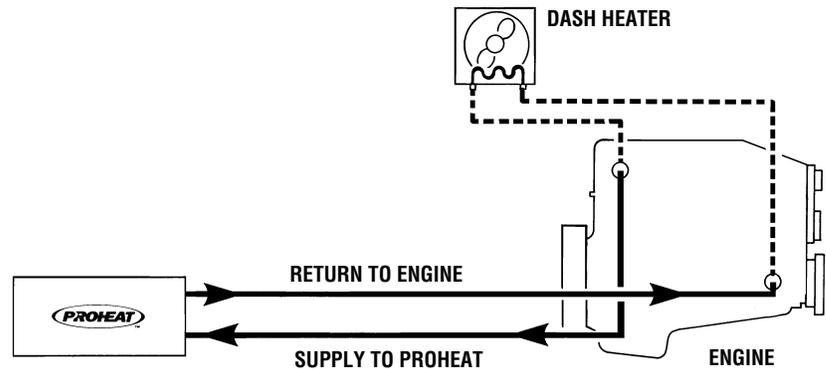
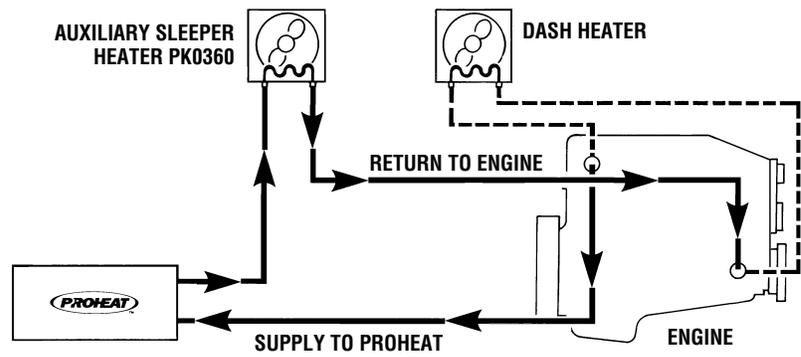

Figure 2-14. Engine Heat or Supplemental Heat
Figure 2-16. Engine and Sleeper Heat
3. Plumb the system as per figure 2-14 or figure 2-16.